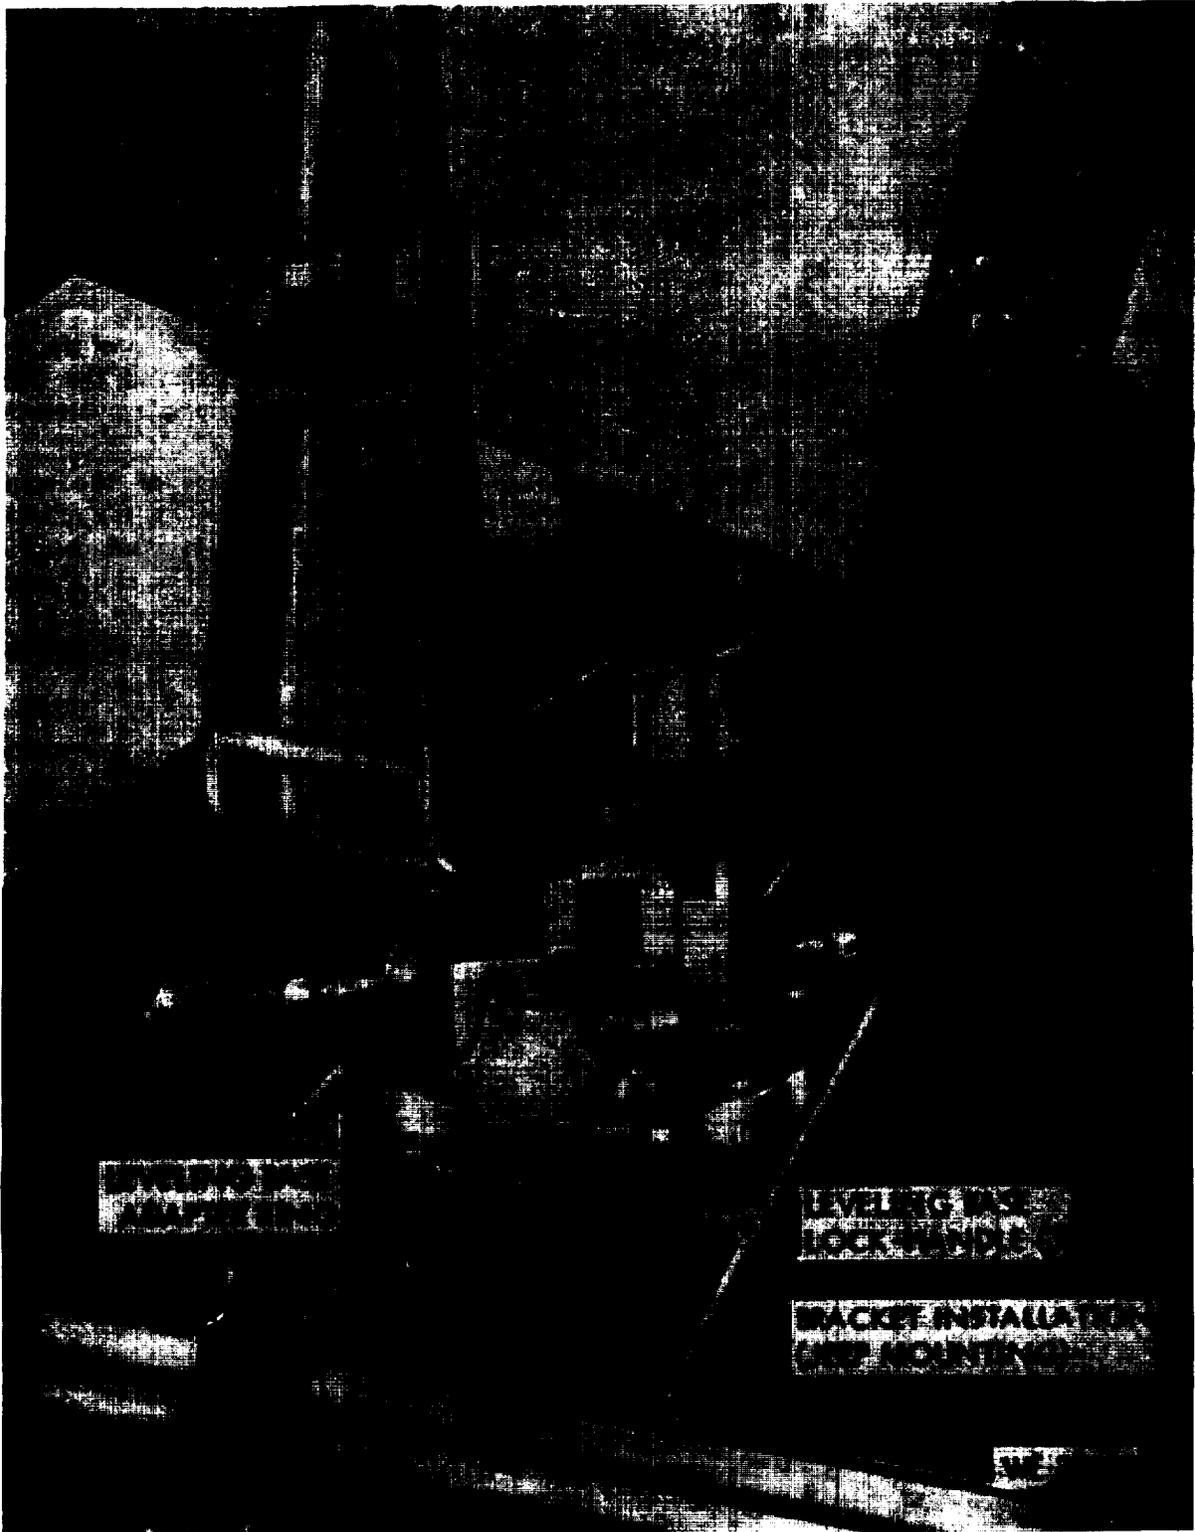

Figure 2-5. Chronograph and mount installed on utility truck M151 bracket installation.
(1) Remove chronograph with mount and accessories from transit cases as indicated in a above.
(2) Install chronograph and mount on utility truck M151 installation bracket by seating base of mount into leveling base adapter ring. (fig. 2-5).